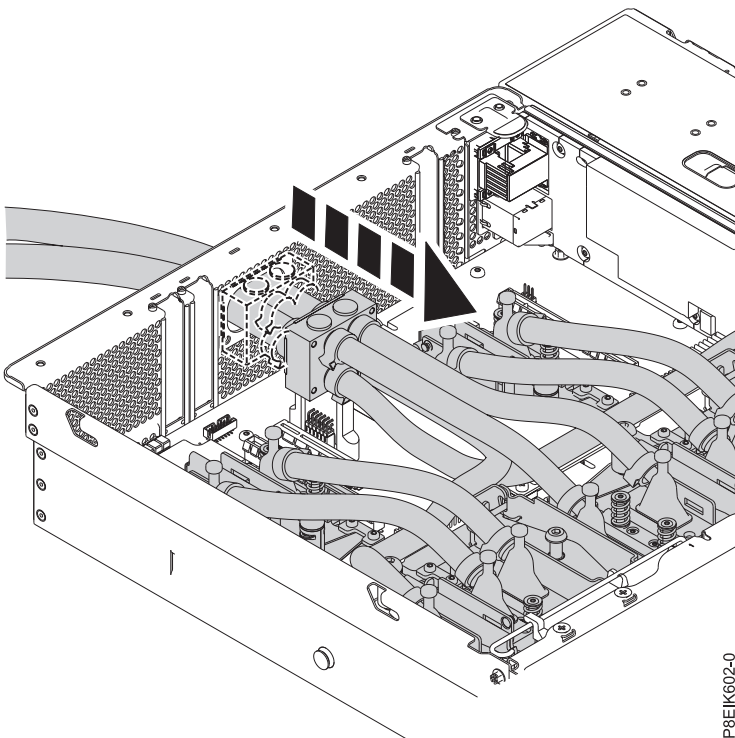
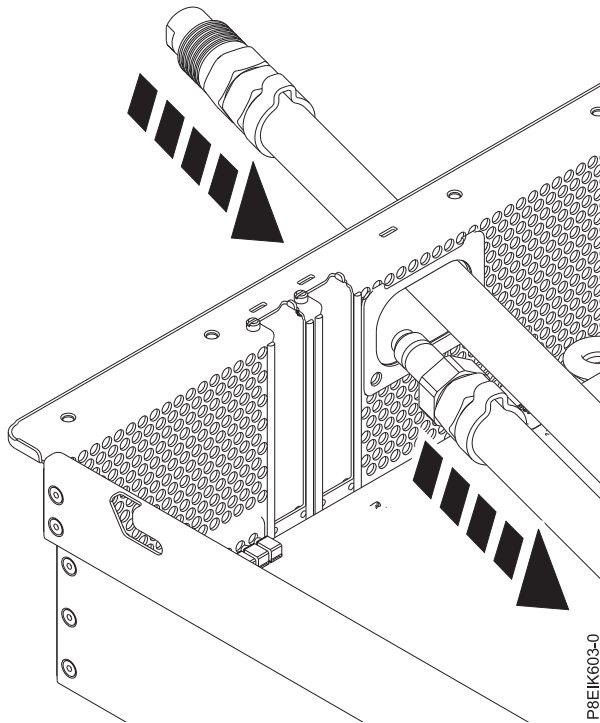

Figure 3. Removing the hoses
Figure 4. Passing the connectors through the rear wall, one at a time
4. Pull the hoses through the rear wall of the system as shown in Figure 3 and Figure 4 on page 5.